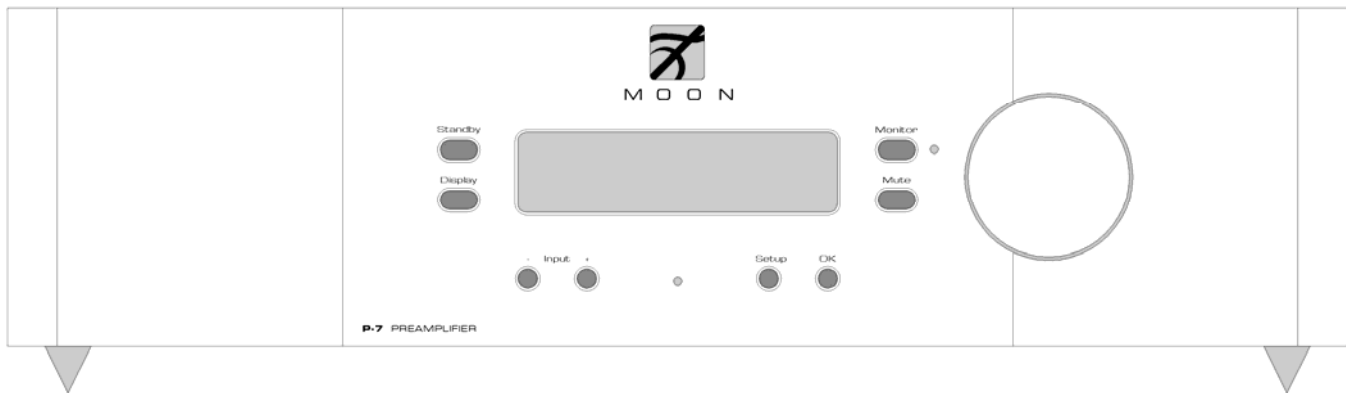

Figure 1: Front panel of MOON P-7 dual-mono Preamplifier
The front panel will look similar to Figure 1 (above). The large display window normally indicates the current volume level and, whenever you change the input, it will briefly show the selected input label. On each side of the display window, are two (2) buttons. On the right side is a large rotary volume control. As well, there are four buttons (4) directly below the window, for a total of eight (8) which are all described in detail below: